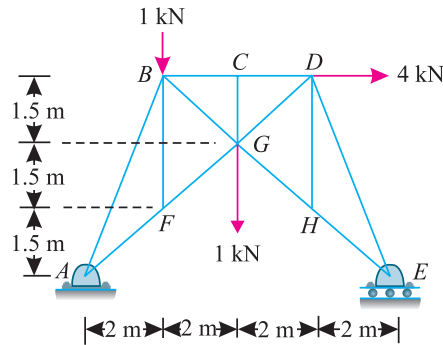

Fig. 14.43.
**Example 14.17.** Figure 14.43 shows a pin-jointed frame carrying vertical loads of 1 kN each at B and G and horizontal load of 4 kN at D.